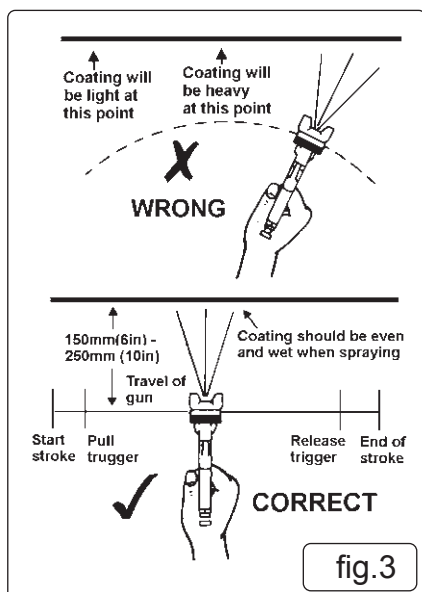

fig.3
- 5.1. For best results, make sure to handle the gun correctly. It should be held perpendicular to the surface being sprayed and moved parallel to it. Start the stroke before squeezing the trigger and release the trigger before finishing the stroke. This will enable you to accurately control the gun and material (fig.3).